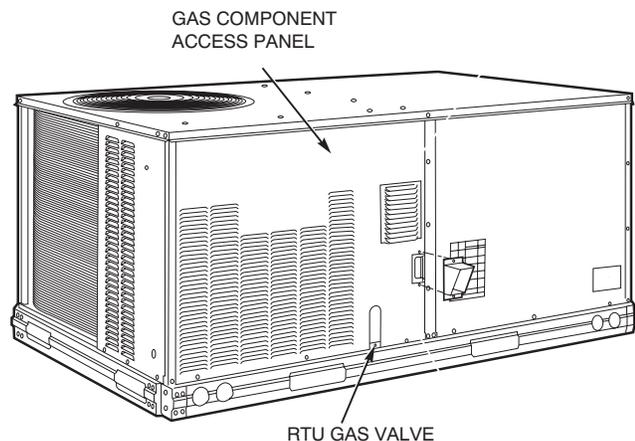

Fig. 5 – Gas Component Access Panel and RTU Gas Valve Location
Step 4 — Remove the gas component access panel. For location of the gas component access panel, see Fig. 5.
Step 5 — Move the RTU gas valve on/off switch to the OFF position and wait 5 minutes. See Fig. 5 for location of RTU gas valve.
Step 4 — Remove the compressor access panel. For location of compressor access panel, see Fig. 5.
Step 5 — Move the RTU gas valve on/off switch to the OFF position. See Fig. 5 for location of RTU gas valve.